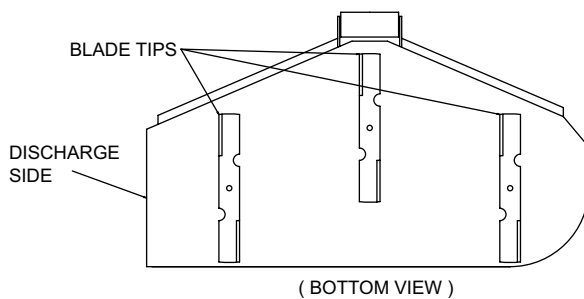

FIG. 1
3. Stop engine and Remove the ignition key. While wearing heavy gloves rotate the blades so that they are all pointing to the forward side of the deck. (See fig.1) Measure from the blade tip to the ground on all three blades. If there is more than 3/16" difference from one side of the deck to the other, the deck should be leveled.